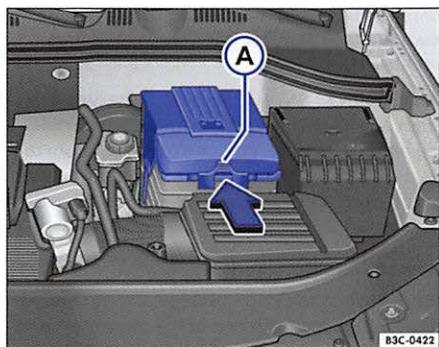

Fig. 156 In the engine compartment: Remove the cover from the vehicle battery.
- *With a hard cover:* Press on the clip $\Rightarrow$ fig. 156  in direction of the arrow and remove the cover upward.